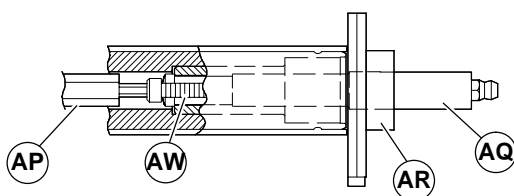

Figure 29
3. Insert small end of hex key wrench extension tool (AP of Figure 29) into pulley end opposite the outboard drive shaft (AQ) and tighten pulley screw (AW) to 20in/lb. Back off screw exactly 1/2 turn (180°).